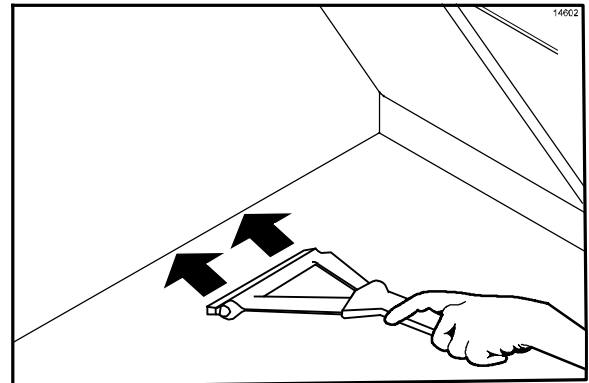

Figure 83
11. Use the grill squeegee to push residual grease into the grease pans. (See Figure 83.)